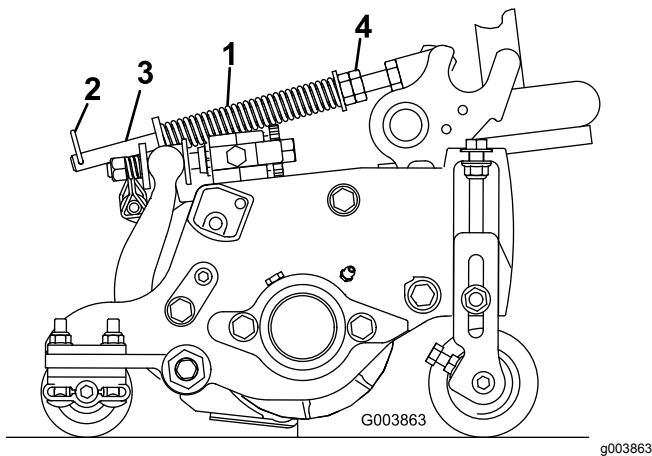

Figure 21
The turf-compensation spring (Figure 21) transfers the weight from the front to the rear roller. This helps to reduce a wave pattern in the turf, also known as marcelling or bobbing.
1. Make sure that the hairpin cotter is installed in the rear hole in the spring rod (Figure 21).
2. Tighten the hex nuts on the front end of the spring rod until the compressed length of the spring is 15.9 cm (6.25 inches); refer to Figure 21.